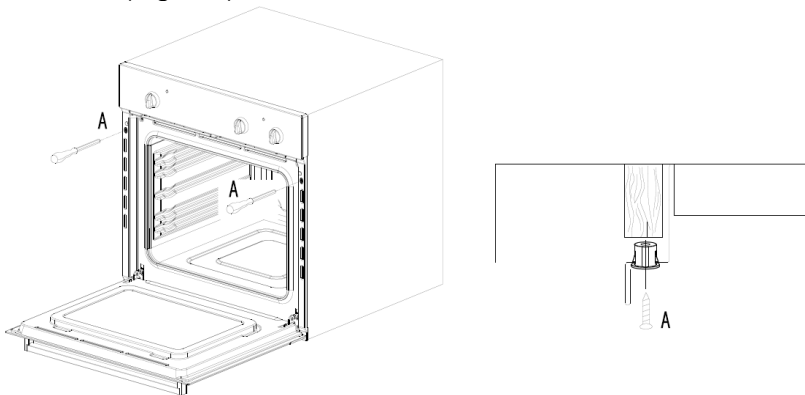

Fig.3
- Fit the appliance into its surround (beneath a work-top or above another appliance) by inserting screws and plastic covers into the 2 holes that can be seen in the frame of the oven when the door is open. (Fig. 3).